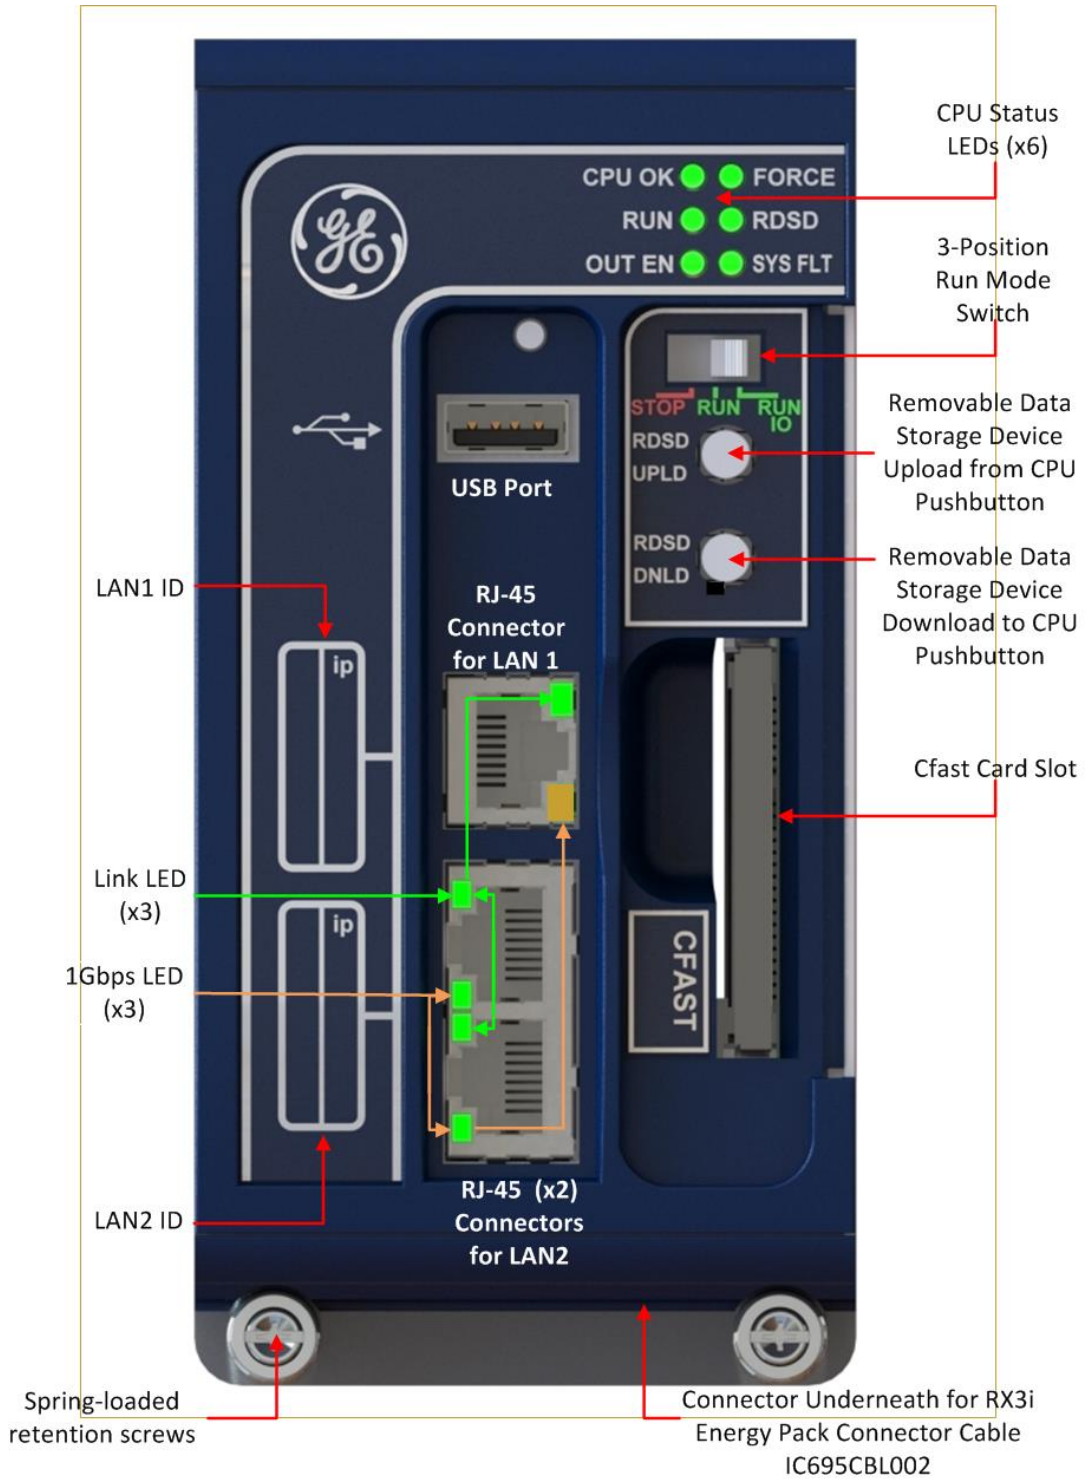

Figure 10: CPE330 Front View & Features
- LAN1 connects to the uppermost RJ45 connector (Figure 10). It is not switched.
Space is provided beside each connector (Figure 10) to record the IP address used on each LAN.